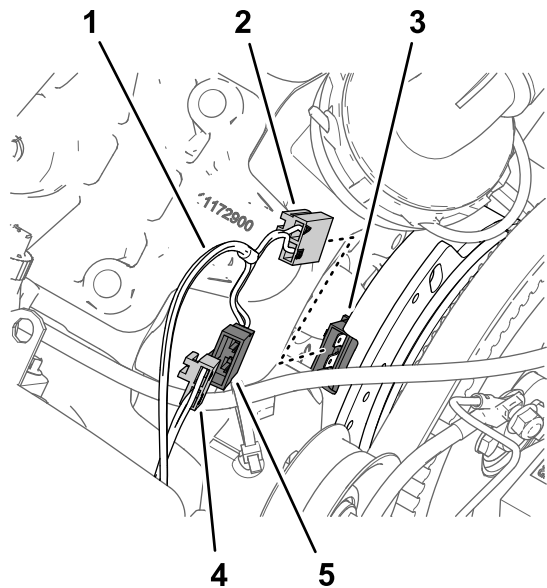

**Figure 168**
1. Disconnect the 2-socket connector of the machine wire harness labeled SPRAY PUMP COIL from the 2-pin connector of the alternator (Figure 168).